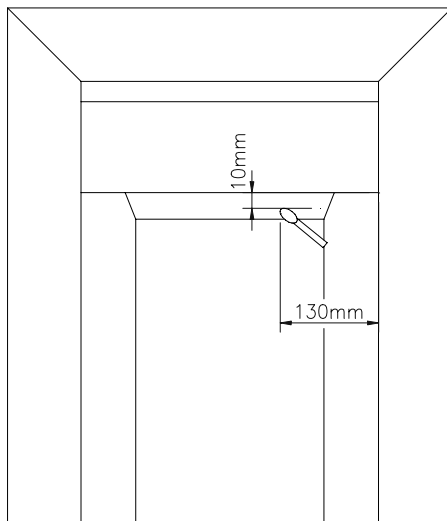

Fig. 12
3. After approximately 5 minutes place a smoke match 130mm from the right hand side, inside edge of the trim, 10mm below and 10mm within the opening of the fire as shown in Fig. 12. Ensure that the smoke is drawn into the fire aperture. If spillage is detected, operate the fire for a further 10 minutes and repeat the test. If spillage is still detected introduce ventilation into the room by opening a window or door. If spillage is no longer detected then purpose made ventilation with a minimum area of 100 sq.cm must be provided. If after introducing ventilation into the room spillage is still detected, the cause must be discovered and the fault corrected. If the fault cannot be corrected, disconnect the gas supply to the appliance and seek expert advice.